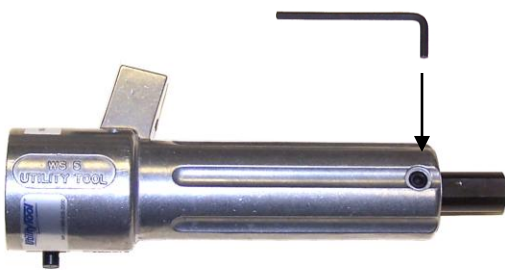

Fig. 1
Step 1 (Fig. 1) To remove the graduated stop bar, use a 1/8" hex wrench and remove the set screw on the body. Pull the graduated stop bar and stop bar bushing out of the backside of the tool body.